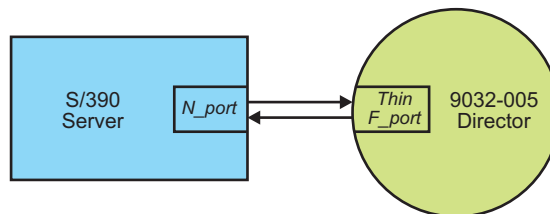

Figure 1. FICON Point-to-Point Topology
- **Point-to-point topology** - FICON topology (Figure 1) provides a single, direct connection between two communication ports called node ports (N_ports). This topology supports bidirectional transmission between source and destination N_ports . The FICON port on the FCV port card provides the N_port (or *thin F_port*) connector for the Director.